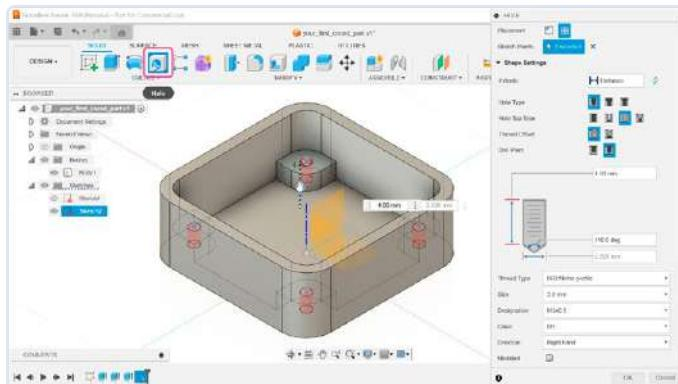

Figure 15: Setting depth and thread types for the holes.
15) Close the sketch, show *Body1*, and select the *Hole* tool from the toolbar. Click on all four points and set the Hole (**Figure 15**). Set *Hole Type* to Tapped. *Thread Type* should be *ISO Metric profile* and *Size* should be 3.0 mm. As for the depth, we don't want the holes to go all the way through, and, since the supports are extruded 6 mm over the ground plane, a 4 mm depth should work fine.